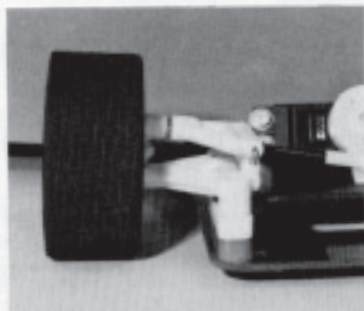

Fig. 88A
□ **Figs. 88A & 88B CAMBER** is a word describing the angle at which the tire and wheel rides relative to the ground (see Figs. 88A & 88B).
Negative camber (Fig. 88A) means that the tire leans inward at the top, putting it closer to the centerline of the car than the bottom of the tire. Positive camber (Fig. 88B) means just the opposite, the top of the tire further away from the centerline of the car than the bottom of the tire. We suggest a starting setting of zero or one degree of negative camber. This can be adjusted by turning the upper arm turnbuckle in the appropriate direction.